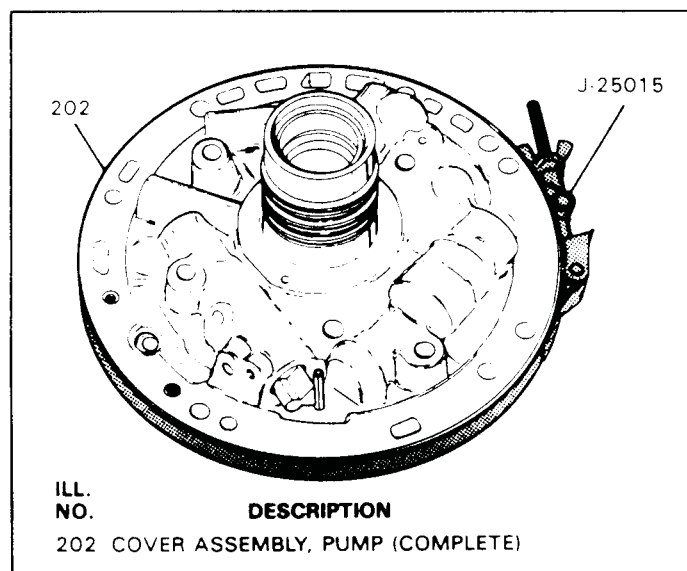

Figure 100
11. Place the oil pump body over a hole in the work bench as shown in Figure 100.
12. Set the pump cover on top of the pump body and align the bolt holes (See Figure 100).
14. Install the alignment band J-25015 over the pump assembly, as shown in Figure 100, and tighten the adjusting screw to align pump halves.
19. Remove the alignment band from the oil pump assembly (See Figure 100).